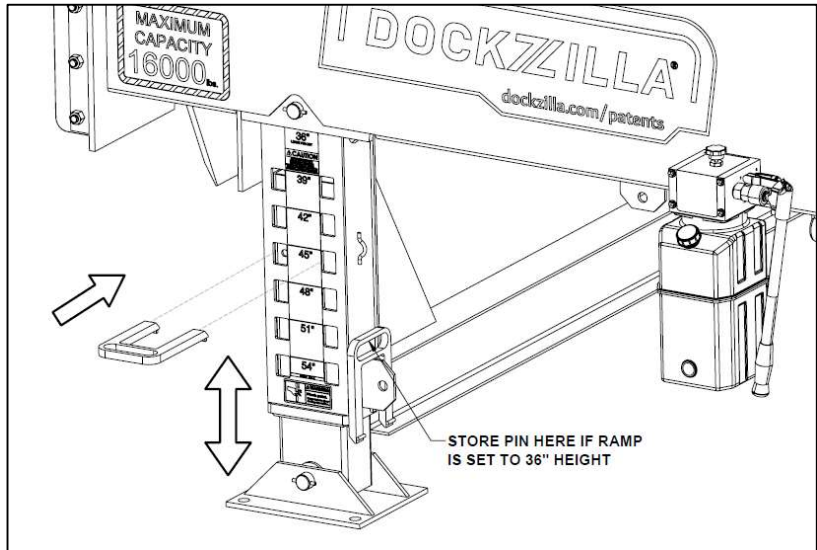

Figure 6: Adjusting Ramp Height
2. Pump the handle until the pins can be removed or the ramp is a few inches above the desired height (Figure 6).